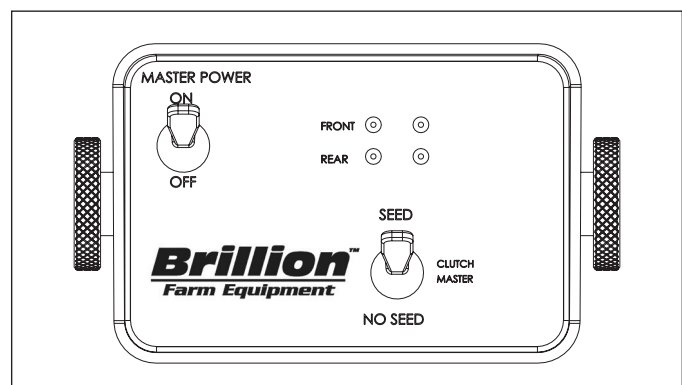

Figure 3-9: Console w/Clutch Control
- The Clutch Master toggle switch allows you to go from "SEED" to "NO SEED" operations. **See Figure 3-9.**